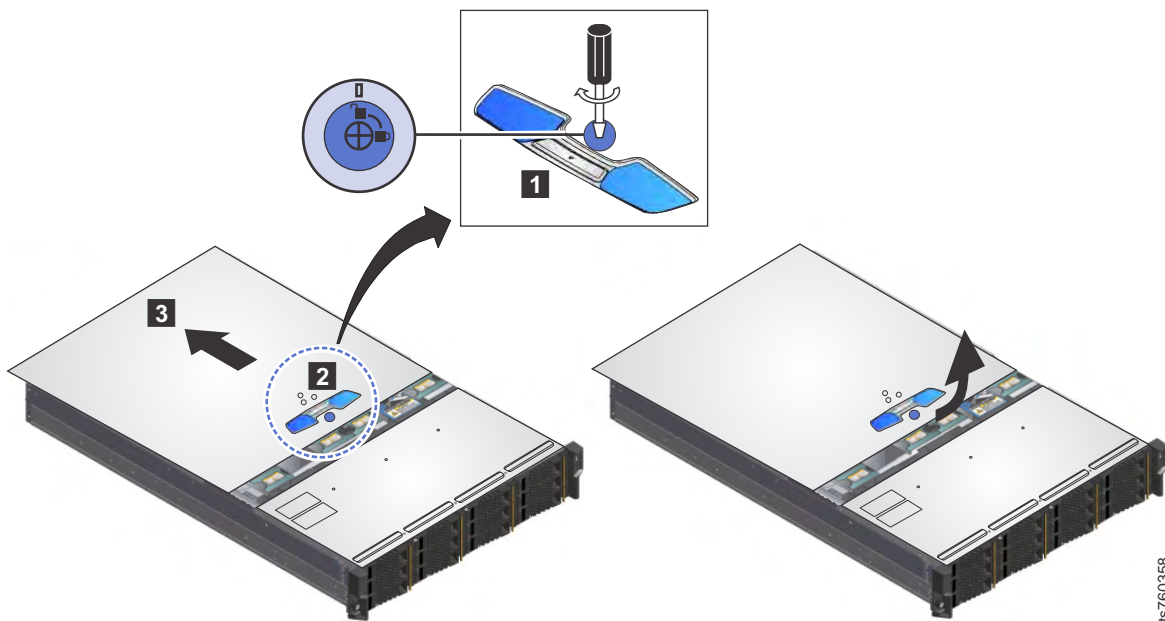

Figure 28. Removing server cover
9. Remove the covers from both the defective chassis and the replacement chassis. Refer to Figure 28 on page 50. **1** Loosen the cover's holding screw 1/4 turn clockwise. **2** Press the silver button and **3** slide the cover back and up to remove it.